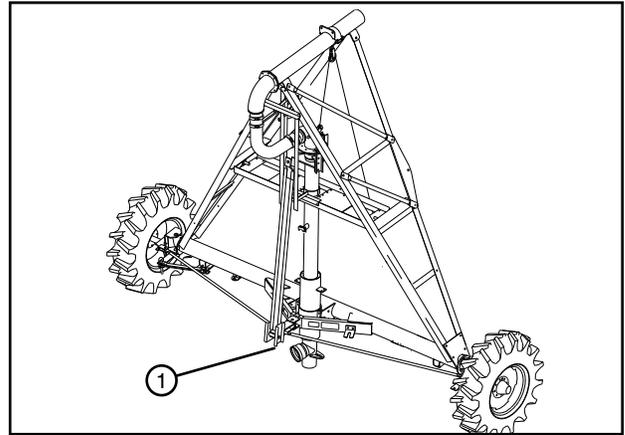

Figure 49-1 1. Riser Pipe
8. Disconnect the water supply line from riser pipe. See Figure 49-1.